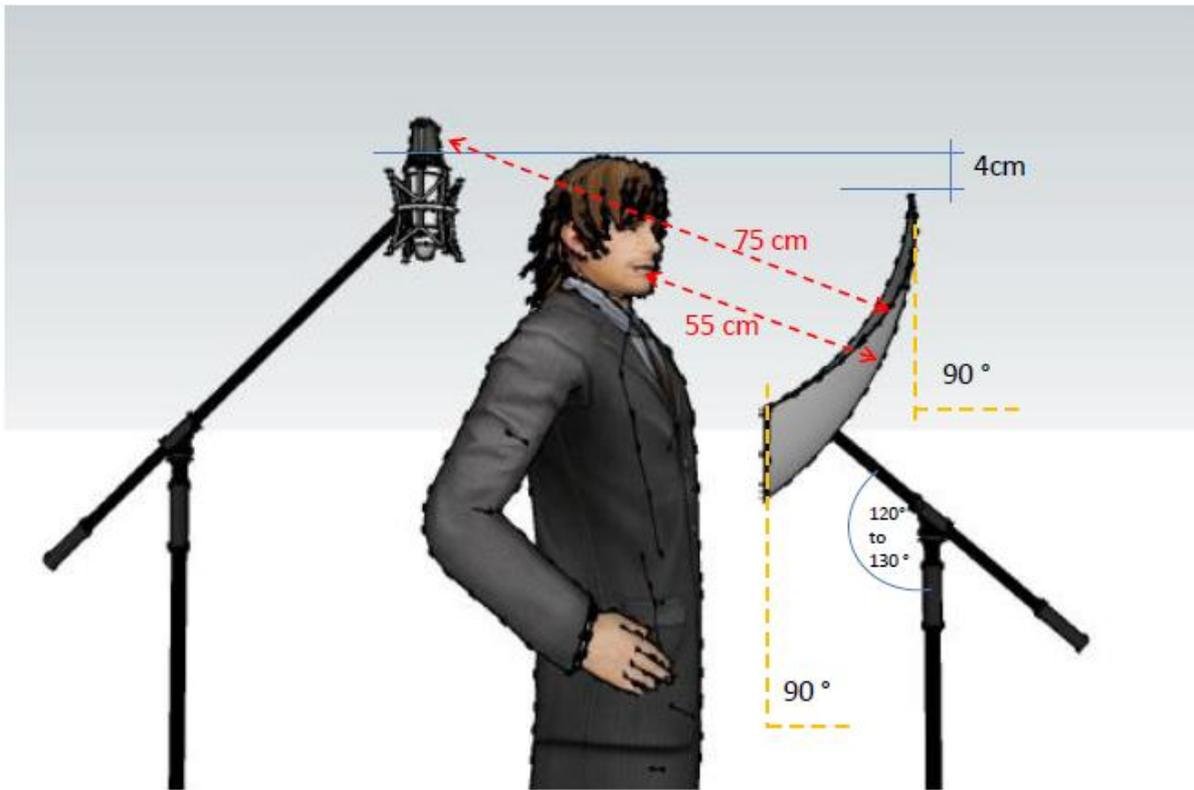

Fig. 3
If you want to record with the microphone the effect on the voice, produced by the reflection of the Binel, place a microphone behind the singer's head: you are always in the focal oval and so you will get the maximum uptake of the clean sounds. (Fig. 3)
7. If you want to record with the microphone the sound completely reflected from the Bintel, you must position the microphone as stereophonic as possible, or two microphones crossed at 90 degrees, behind the singer's head, at a suitable height (Fig. 3). Together with microphone A it is also possible to mix the direct sound of a traditionally directional second microphone B (this however will not have an effect of enriching the sound), placed in front of the singer and just above the upper tip of the Bintel (Fig. 6).